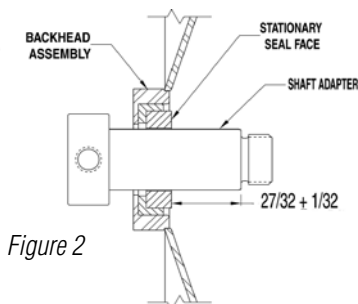

Figure 2
1. Install the shaft adapter (item 6) onto the motor shaft. Be sure one of the setscrews is protruding into the motor shaft keyway slot, but do not tighten any setscrews yet.
3. Lubricate the outer boot on the stationary part of the seal with a chemically compatible lubricant, and press into the backhead (item 7) until it is fully seated. The polished seal surface should be facing away from the motor.
4. Insert the backhead (item 7) into the motor adapter (item 8) bore and press into place. If the shaft adapter was not loosened or removed, go to step 5. If replacing the shaft adapter, firmly hold the backhead toward the motor, and adjust the shaft adapter until the shoulder is .843 (27/32) inches from the stationary seal face (see figure 2). Tighten all four setscrews with a T wrench through the access slots in the motor adapter to 75 in-lbs dry, 60 in-lbs lubricated.